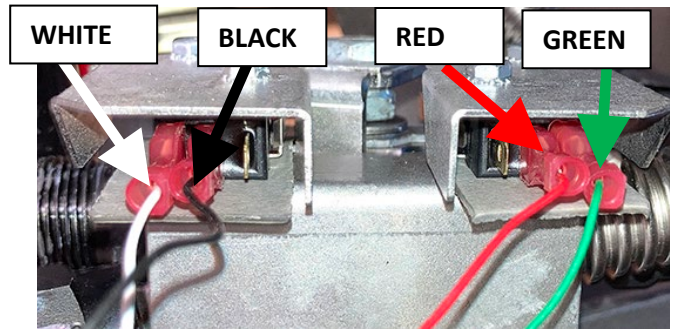

Figure 34
32. Route the harnesses of 9-pin connector and four (4) dispose valve spade connectors from step 25 between the oil return manifold and the frame above the transformer box towards the left side of the fryer to the dispose valve assembly. Ensure the wires are out of the path of the filter pan.
33. Facing the spade connectors on the side of the dispose valve assembly, attach the four (4) spade dispose valve connectors, from the previous step, to the dispose valve plumbing assembly. Beginning with the switch on the left, attach the white wire to the farthest left connector; next attach the black wire, to the connector directly to the right of the the white. On the right switch, attach the green wire to the farthest right connector; attach the red wire to the connector directly to the left of the the green wire (see Figure 34).